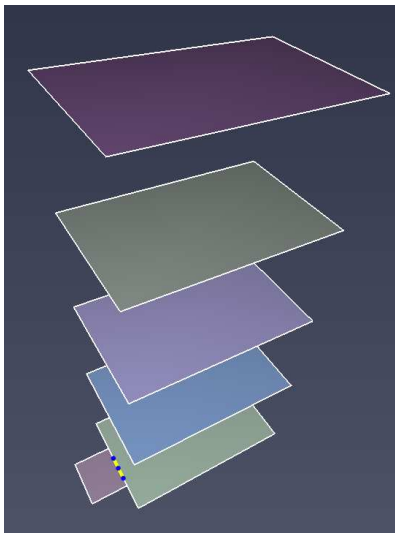

Figure 57. Draw elevator door
2. Draw all doors on the boundary of the base room, see Figure 57. Occupants will use these doors on every floor to enter and exit the elevator.